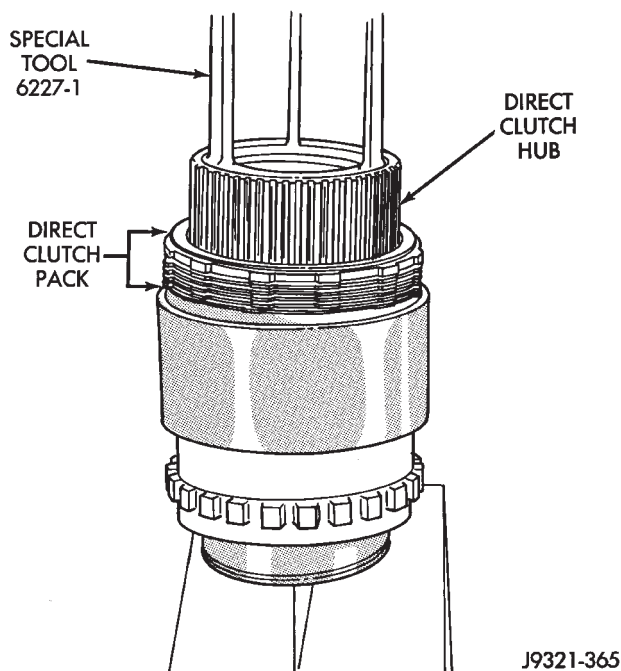

Fig. 265 Direct Clutch Pack Removal
(7) Release press load **slowly and completely** (Fig. 265).
(8) Remove Special Tool 6227-1. Then remove clutch pack from hub (Fig. 265).